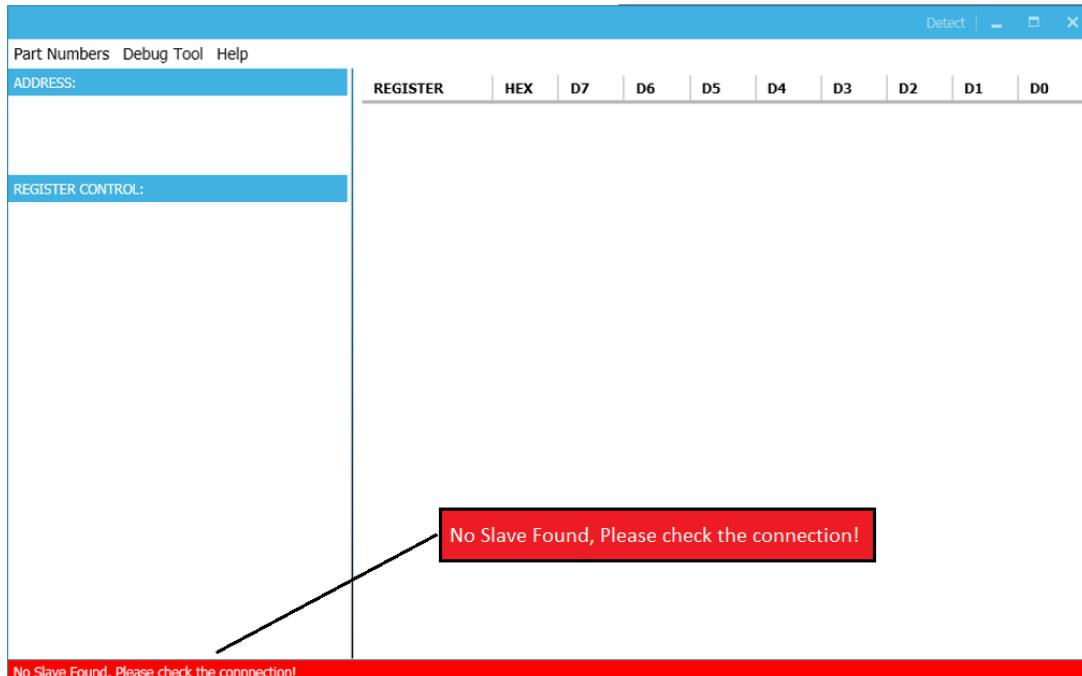

Figure 8: Warning Indicates Unsuccessful Connection – Evaluation Board Not Connected
- 1) "No Slave Found. Please Check the Connection!" This means that the evaluation board is not connected (see Figure 8).